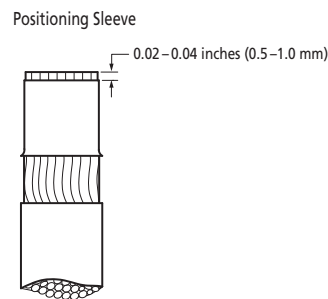

FIGURE 15
- Insert conductor through sleeve so strand ends protrude approximately 0.02–0.04 inches (0.5–1.0 mm). See Figure 15.